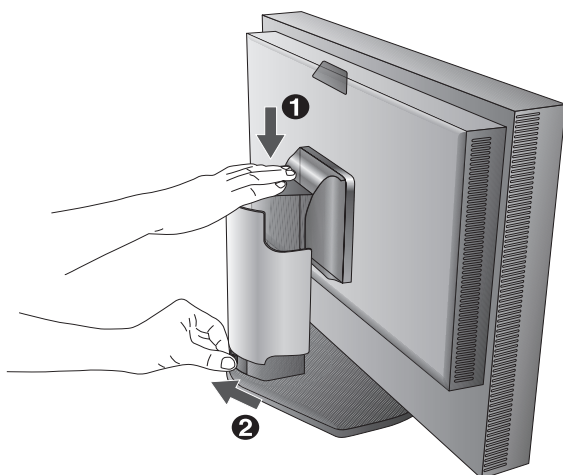

Figure B.1
3. Height adjustment is locked by lock button. Place hand on top of the monitor to push down the screen to the lowest position. Slide the lock button to unlock the stand to raise the monitor head (**Figure B.1**).